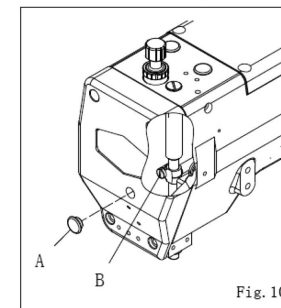

Fig. 10
2. 若需要调整时, 请先打开机头前盖之止油胶盖(A), 放松针棒连杆上的螺丝(B), 上下调整针棒的高度后再固定之。(图10)
2. If you would like to adjust the height of Needle Bar, please remove the rubber plug of front cover and loose the screw (B) on Needle Bar Rod (A). Adjust the Needle Bar up or down to require height and fix the screw. (Fig. 10)